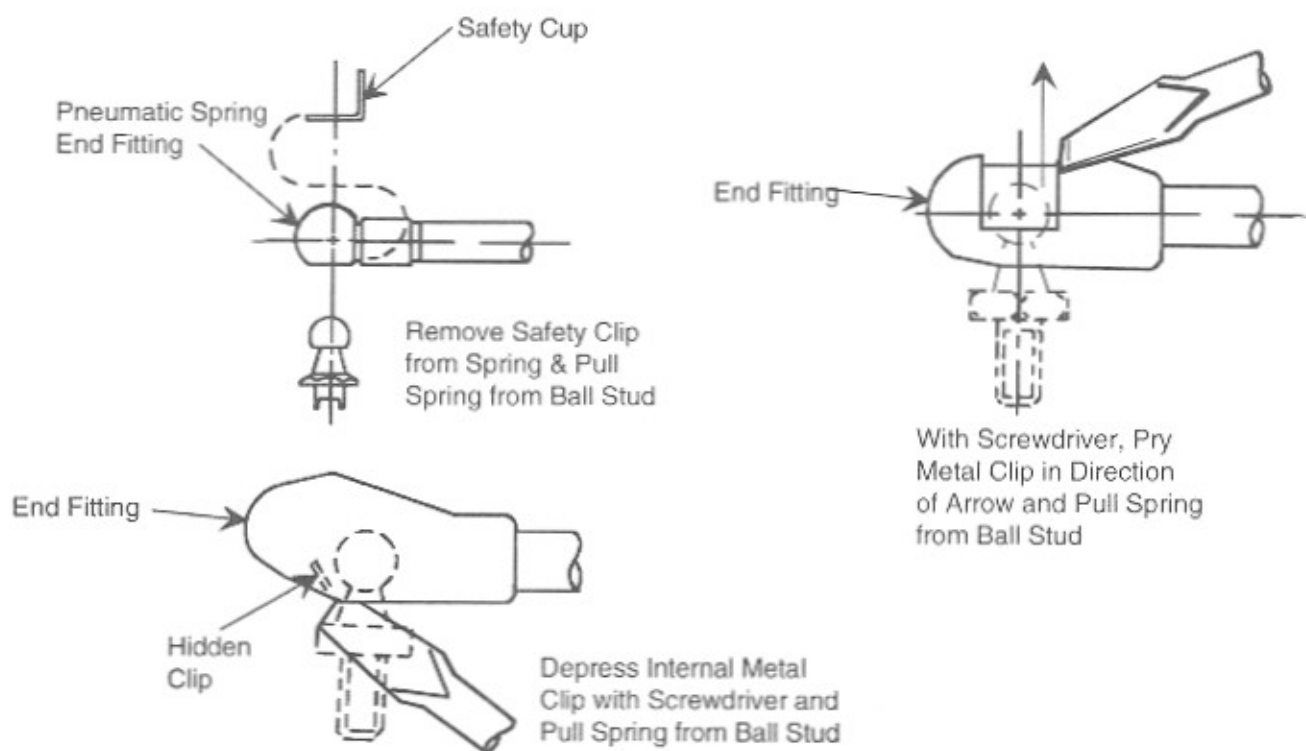

Figure 6-19. Door Spring Fittings
5. With your helper holding the top door open, disconnect the door springs (*See Figure 6-19 on the previous page*).